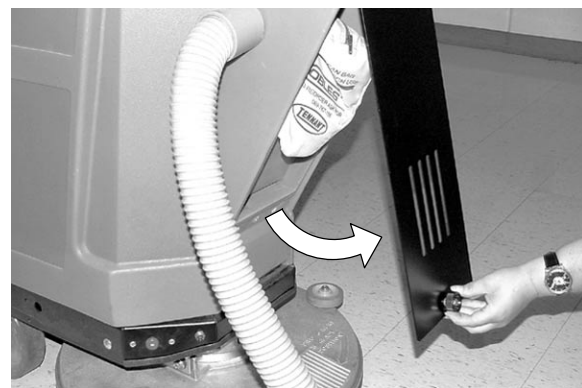

FIG. 21
- Dust bag maintenance: Open the dust bag access door to gain access to the dust bag (Figure 21).